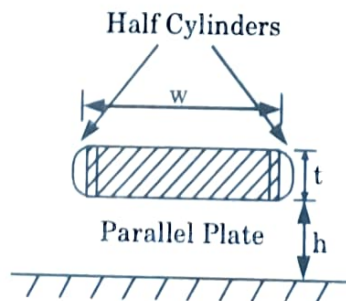

Fig. 2.2.2. Yuan and trick capacitance model including fringing fields.
4. The fringing capacitance is more complicated to compute. One intuitively appealing approximation treats a lone conductor above a ground plane as a rectangular middle section with two hemispherical end caps, as shown in Fig. 2.2.2.